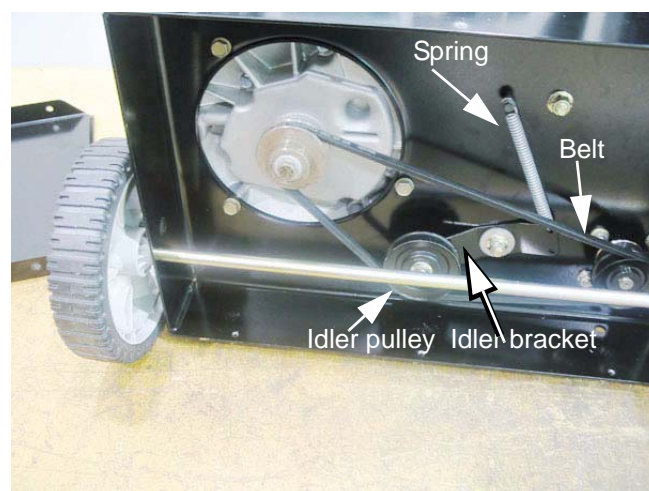

Figure 4.2
1.1. h. Relieve tension from the idler pulley. See Figure 4.2.